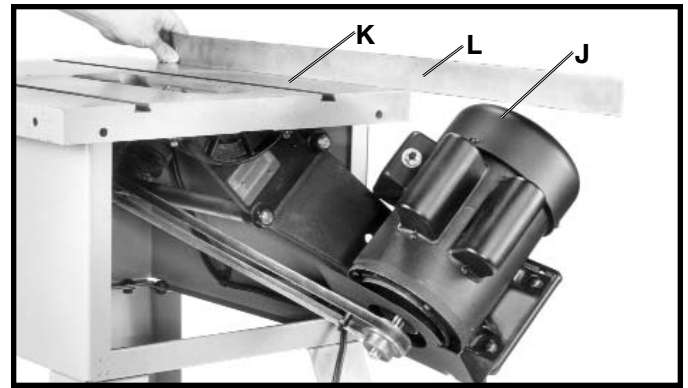

Fig. 25
8. **⚠ WARNING** IMMEDIATELY AFTER ASSEMBLING THE BELT, RAISE THE SAW BLADE TO ITS MAXIMUM HEIGHT AND TILT THE SAW BLADE TO 45 DEGREES. USING A STRAIGHT EDGE (L) FIG. 25, CHECK TO SEE IF THE MOTOR END (J) FIG. 25, IS BELOW THE TOP OF THE TABLE SURFACE (K). IF THE MOTOR END (J) IS ABOVE THE TOP OF THE TABLE SURFACE, THE MOTOR MUST BE MOVED TO THE LEFT UNTIL YOU ARE CERTAIN THE TOP (J) OF THE MOTOR IS BELOW THE TOP OF THE TABLE SURFACE. THEN RE-ALIGN THE MOTOR PULLEY TO THE ARBOR PULLEY.